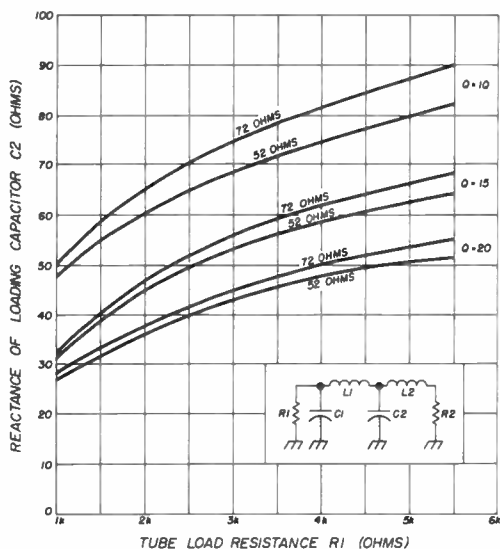

fig. 18. Reactance of the loading capacitor C_2 as a function of tube load resistance for pi-L networks.
6. Find the reactance of the loading capacitor (C_2) from fig. 18. In this case, the reactance is about 47 ohms.